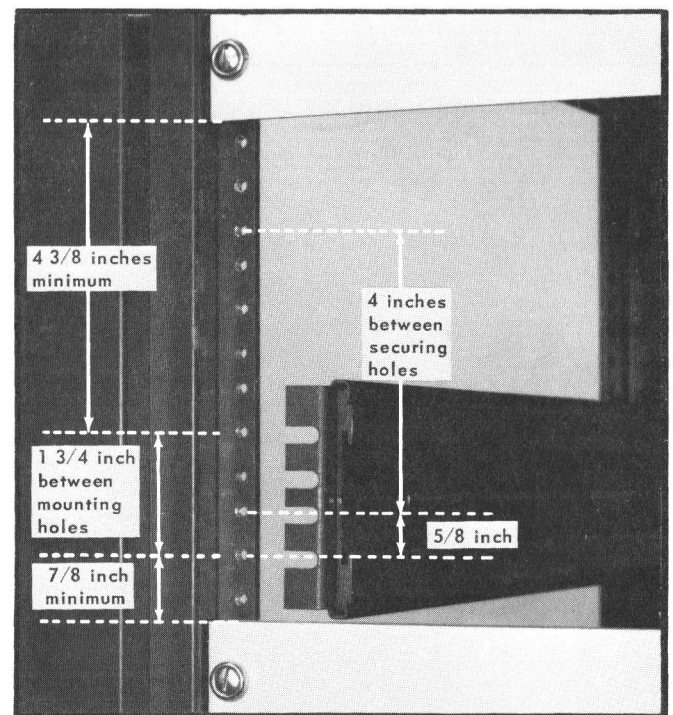

Fig. 8-7. Vertical mounting position for front end of slide-out tracks.
1. Referring to Fig. 8-7, select the proper front-rail mounting holes for the stationary sections.